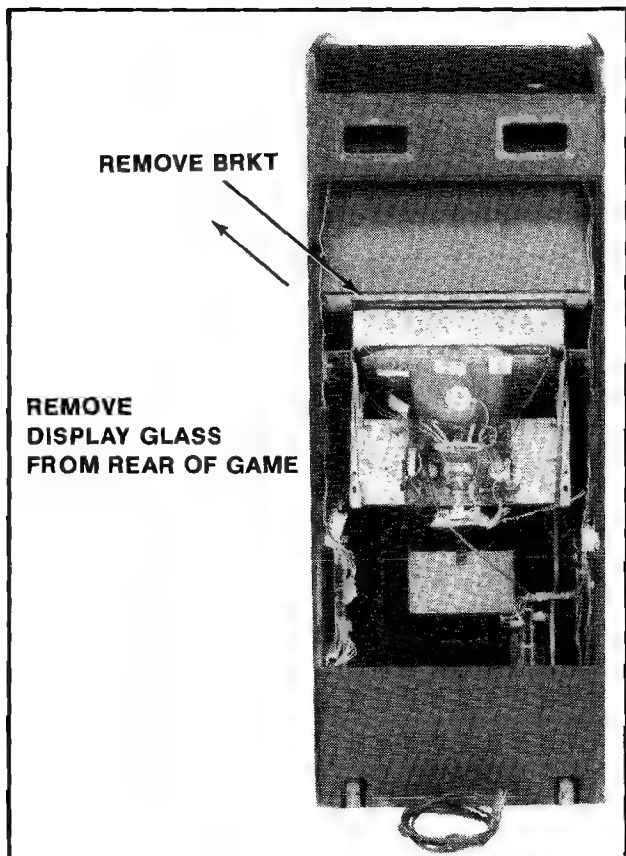

Figure 12 Removing display glass — Upright game
1. UPRIGHT MODEL: See Figure 12.